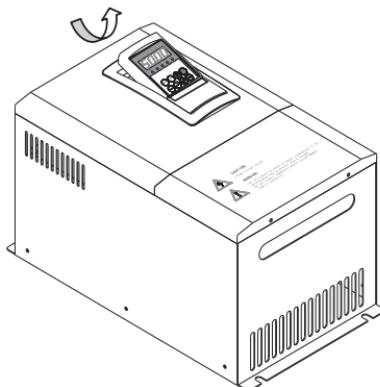

Fig. 3-12 Mounting Diagram for the operator panel and connecting wire of the inverter Model B
**Step 1.** Hand down in the notch of the upper of the keypads . press down and buckle up. Then remove the keypad . (as shown in Figure 3-12).